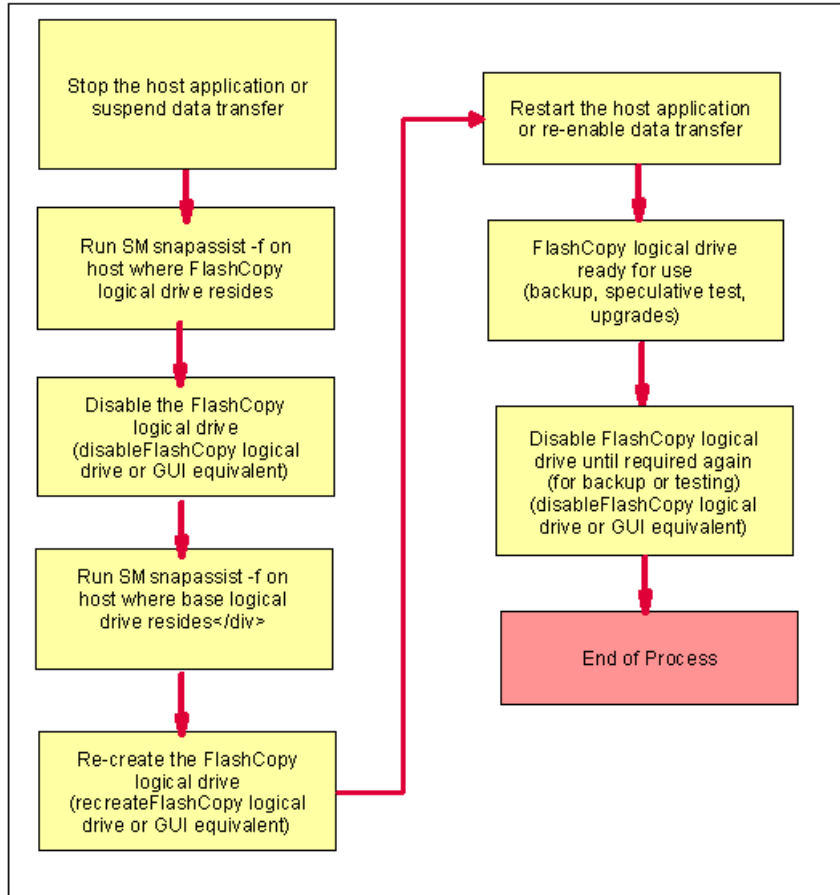

Figure A-4 Reusing a disabled FlashCopy logical drive: Windows 2000 dynamic disks
- ▶ Reuse a disabled FlashCopy logical drive on Windows 2000 (using dynamic disks). See Figure A-4.